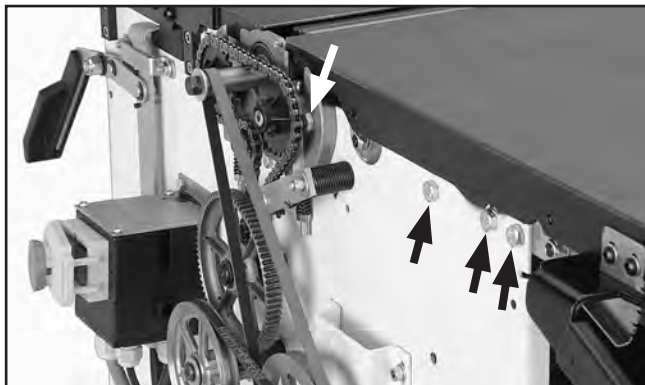

Figure 63. Location of infeed table adjustment bolts, front view.
4. Loosen the eight hex bolts and flange nuts on both sides of the infeed table, as shown in **Figures 63** and **64**.